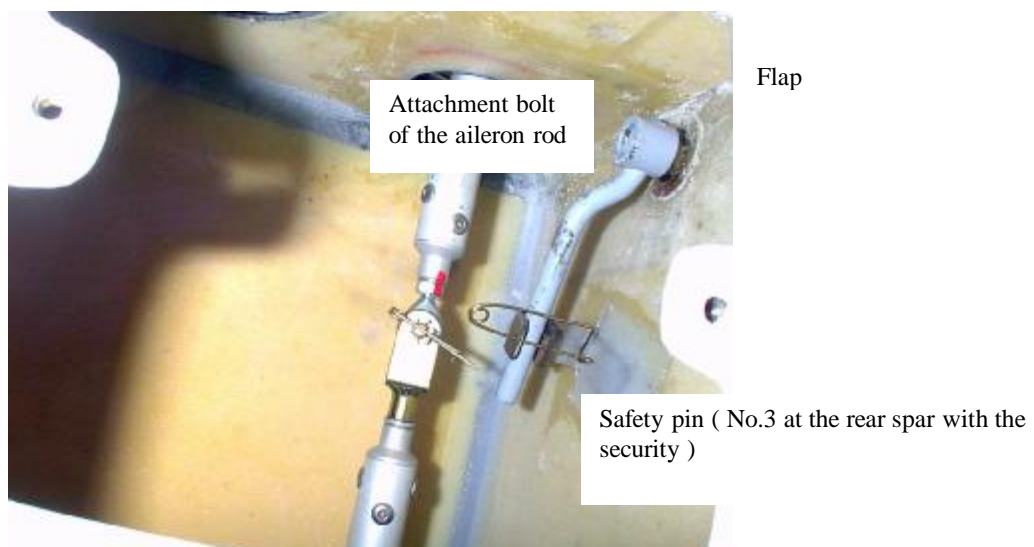

Fig. 4. Connecting bolt + safety pin of aileron connection.
5. Insert rear spar into the fitting to locate the rear spar to the centre section. Secure all 6 pins with safety pins (Fig.4).
7. Connect the aileron control rod with the rod in the wing centre section and secure the nut (Fig.4) with the safety pin.